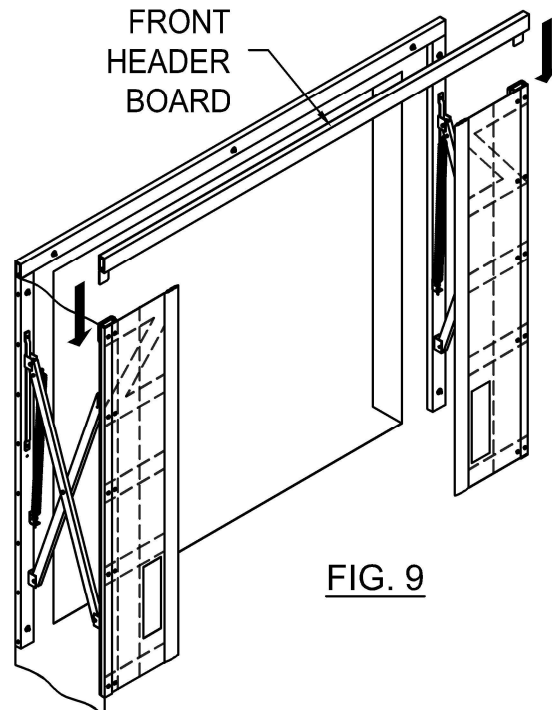

FIG. 9
- \* Connect front header cross-member to left and right verticals by sliding tongues at each end of front header cross-member into slots at top end of verticals (FIG. 9).